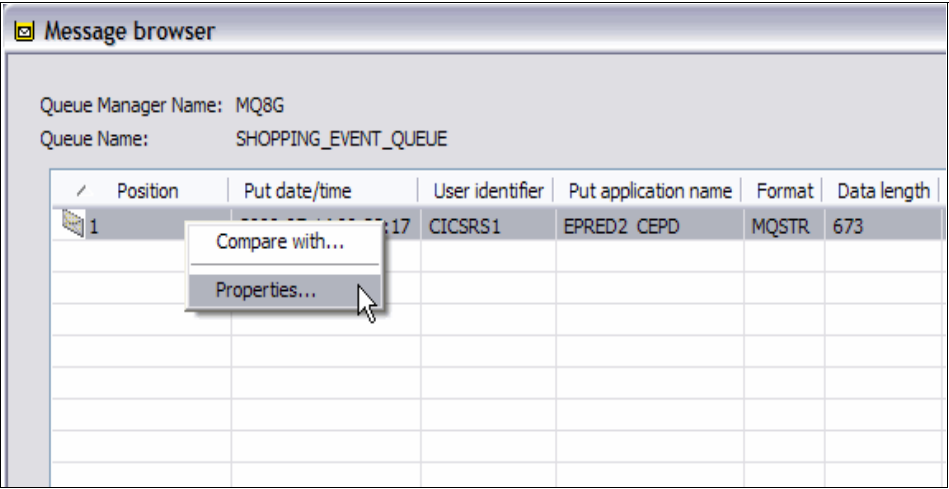

Figure 5-43 WebSphere MQ message browser
- Right-click the line showing the message -and click Properties (Figure 5-43 on page 129).